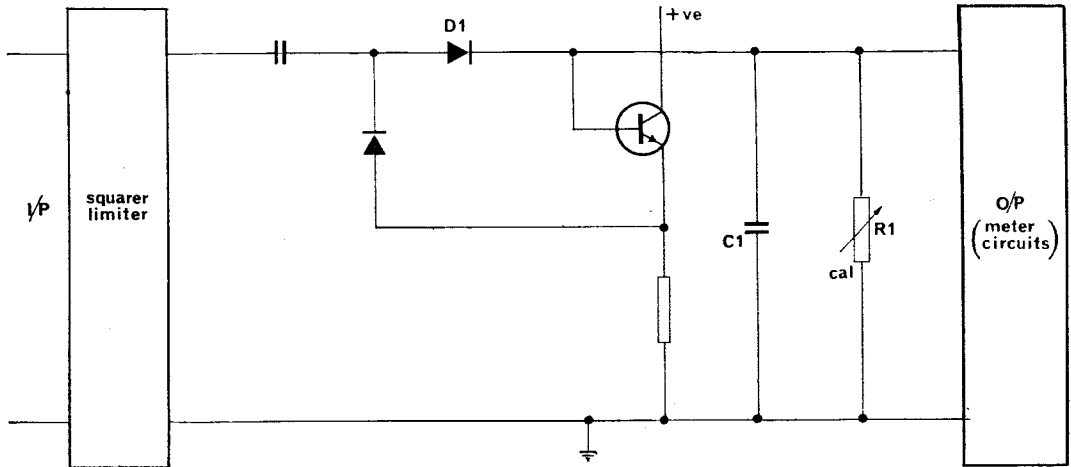

Fig. 4. Capacitor discharge circuit (STR40)
13. **Capacitor discharge meters.** The circuit shown in figure 4 is only one of many possible capacitor discharge meter circuits in common use (see AP3302 "diode counters"). The instrument operates by charging C1 quickly through the diode D1 during the positive half cycles, and discharging it at a rate controlled by the time constant $C1 \times R1$ during the negative half cycles. The charge built up on C1 is therefore proportional to the input frequency and after smoothing it can be used to operate a milliammeter calibrated in frequency (non-linear scale).
The actual circuit shown in figure 4 is part of Radio Altimeter STR40; the ammeter used is calibrated directly in feet and the equipment has an overall accuracy of $\pm 3\%$ mainly due to errors in the counting circuits. Most instruments of this type are fitted with a calibrator preset control (R1 is variable) so that the reading can be adjusted against a known source such as a signal generator (accuracy 1 in 10^3 or better). Another extremely common use of the capacitor discharge (diode counter) type of circuit is as p.r.f. monitors for pulsed radar transmitters. These meters are calibrated directly in p.r.f. and the circuit is sometimes arranged so as to "rest" the transponder if the p.r.f. exceeds a given value.